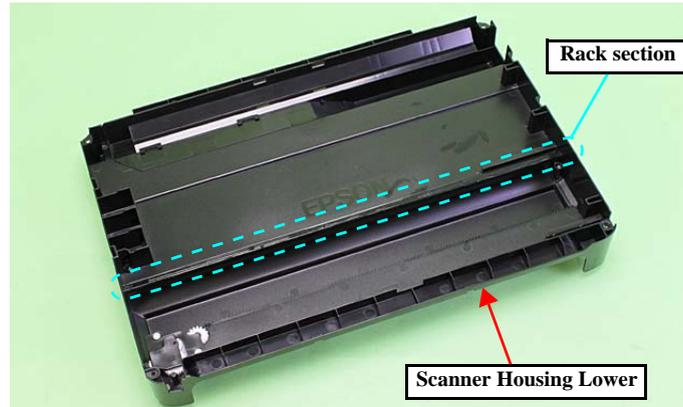

Figure 1-5. Rack section
*2: The rack section is the linearly-arranged toothed area on the Scanner Housing Lower. (See Fig. 1-5.)